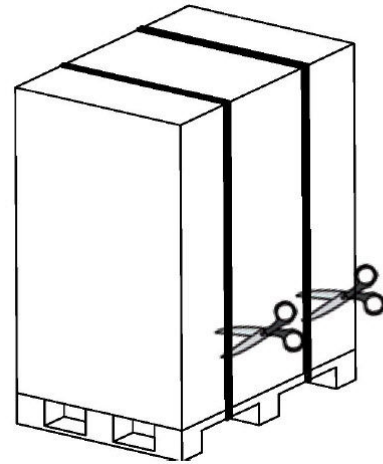

Fig. 1
1. Remove the shipping carton from the pallet. **Fig. 1**